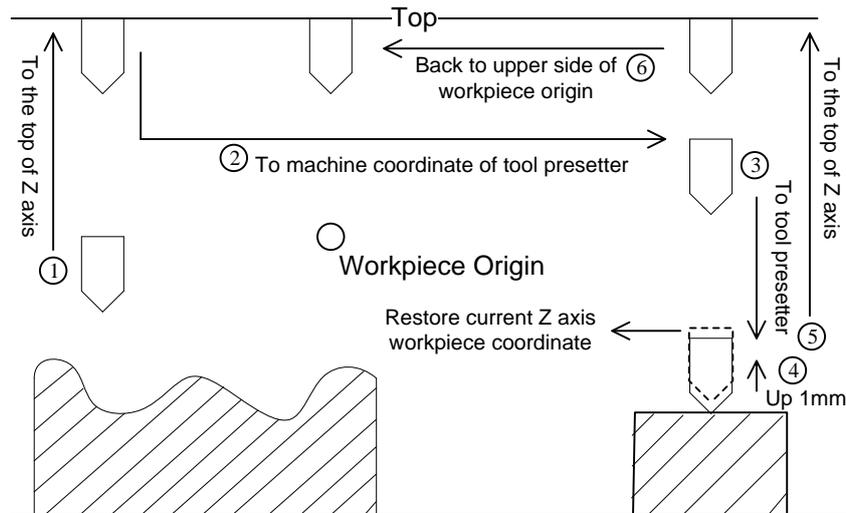

Fig. 3-34 Calibration after Tool Changed
- 4) After tool change or tool break, press "F3" to execute calibration after tool changed. The process is automatically completed by the system, shown as Fig. 3-34.